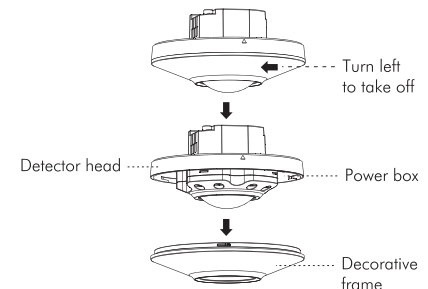

FIG.6
4.2.1.1. Take off decorative frame of KNX High Bay Mount Presence Detector (See FIG.6).